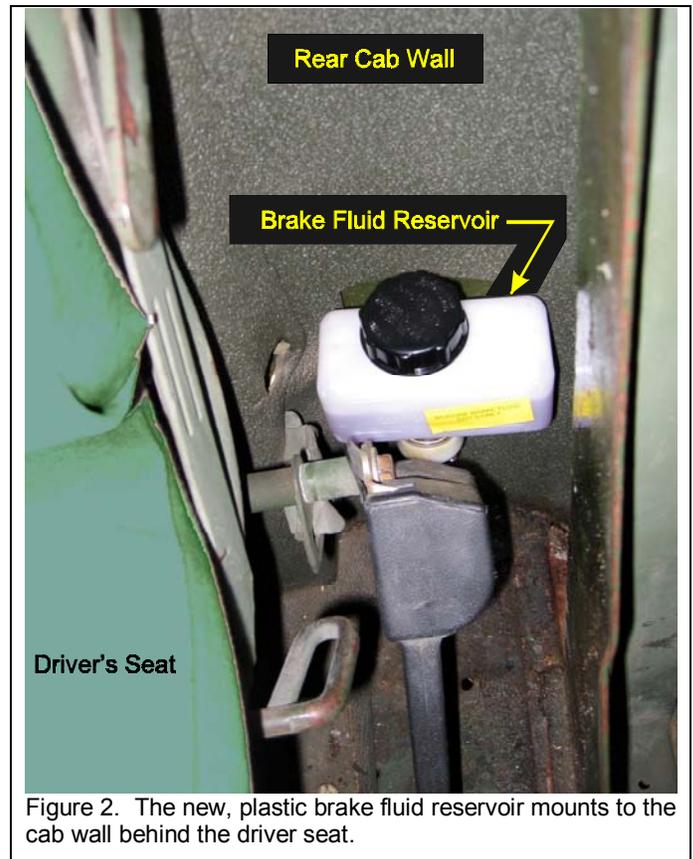

Figure 2. The new, plastic brake fluid reservoir mounts to the cab wall behind the driver seat.
- Determine the location of the new tank. It is not critical as long as it is in a place that is easy to view and refill, elevated higher than the master cylinder, and protected from damage. A good place is on the inside rear cab wall in the corner behind the driver's seat as shown in Figure 2.